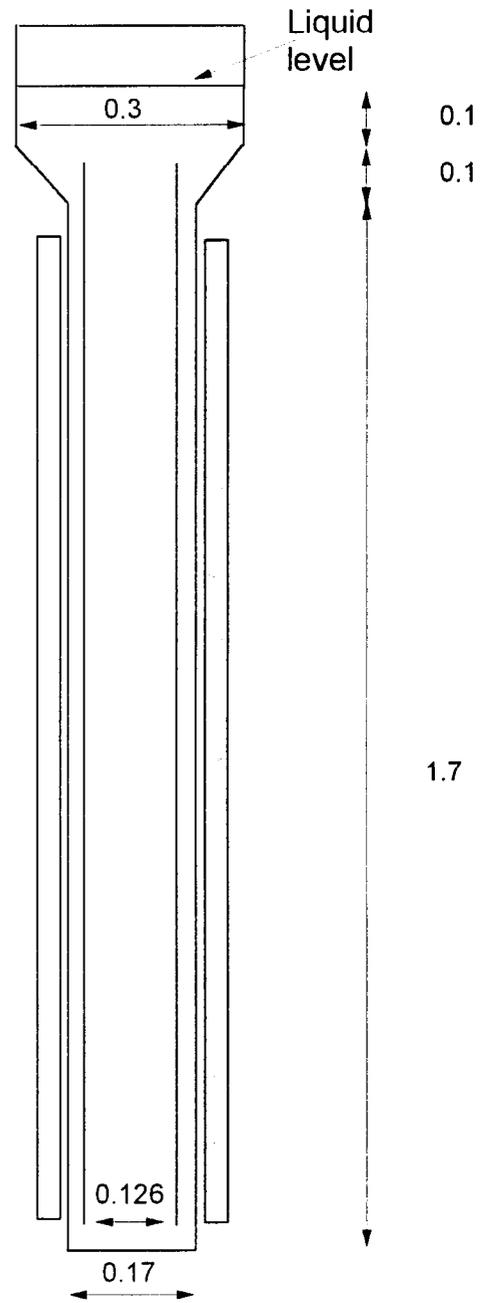

Figure 4. Air-lift dimensions for 0.17 m diameter (reactor 3).
- an air-lift reactor with an increased diameter of 0.17 m (reactor 3, figure 4)